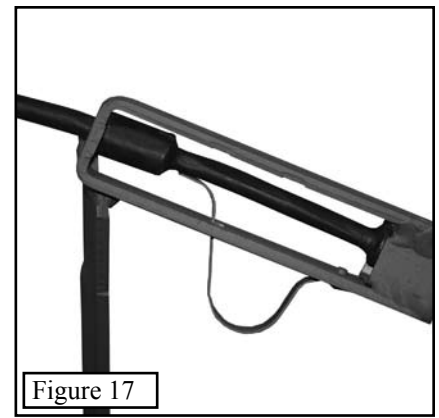

Figure 17
Step 4. Your cable bracket should now look like **Figure 17**. **WARNING:** If the QuickDraw cable spring does not lock into place behind the cable stop, **DO NOT USE THE TREESTAND!** Contact Summit to obtain the proper corrective action.